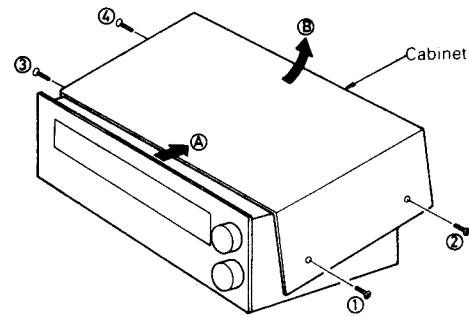

Fig. 2
- Remove the four cabinet mounting screws (nos ①~④ screws in fig. 2).
- Sliding it toward (A) direction and lifting it upward (B) direction as shown in fig. 2.